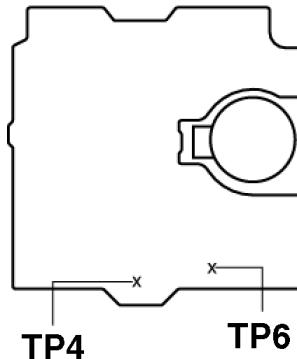
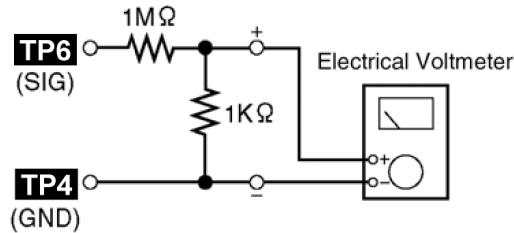

Fig. 9
Fig. 12
- 1. Connect a frequency indicator. (Fig. 12)
1. Connect an electrical voltmeter. (Fig. 9) (Fig. 12)